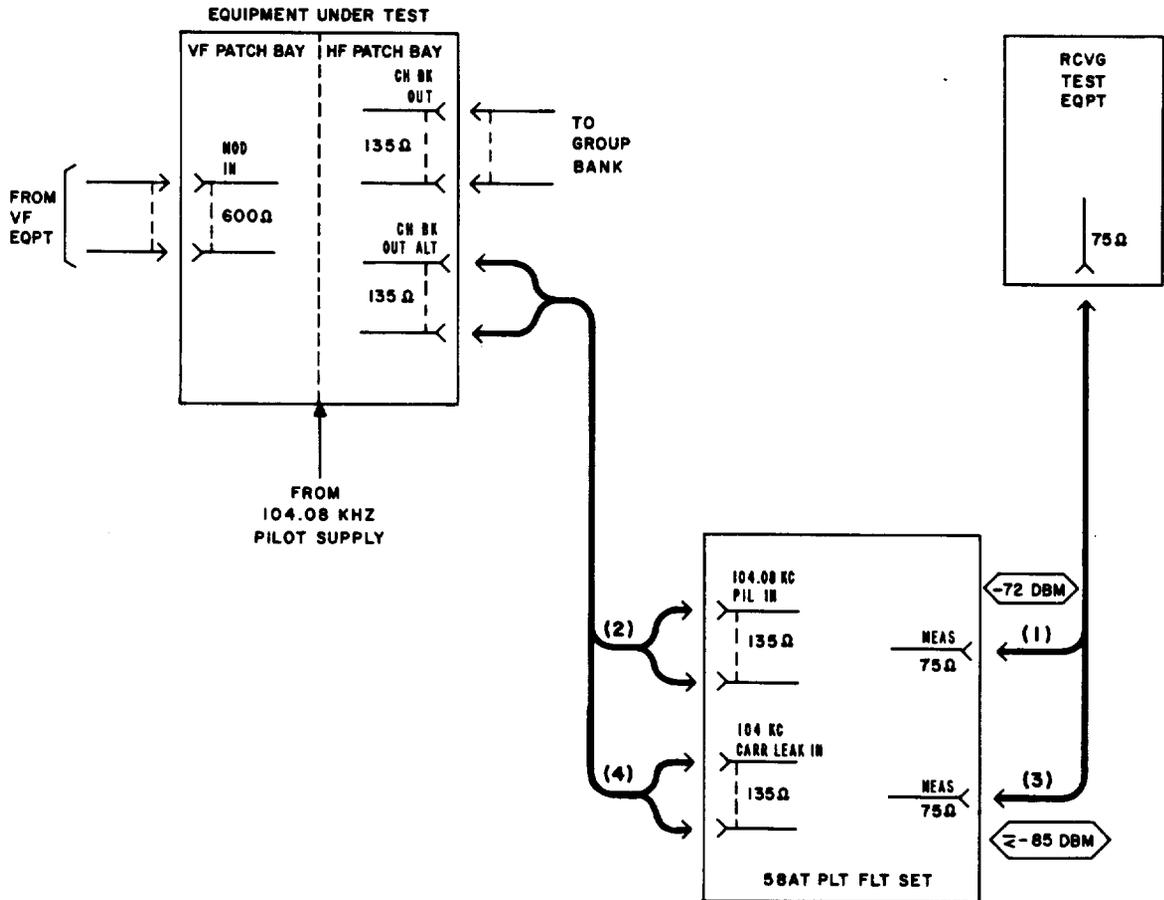

Fig. 2—Patching Diagram—104-kHz Carrier Leak Test
Note 1: If desired, the steps in the procedure in this section can be bypassed by referring to Fig. 2.
2	Connect the RTE to the 104.08-kHz pilot MEAS jack on the 58AT pilot filter set [patch (1), Fig. 2].
3	Connect the 104.08 KC PIL IN jack (58AT pilot filter set) to the CH BK OUT ALT jack [patch (2), Fig. 2].
5	<p>Remove patches (2) and (1), Fig. 2.</p>
6	<p>Connect the RTE to the 104.00-kHz carrier leak MEAS jack on the 58AT pilot filter set [patch (3), Fig. 2].</p>
7	<p>Connect the 104 KC CARR LEAK IN jack (58AT pilot filter set) to the CH BK OUT ALT jack [patch (4), Fig. 2].</p>
11	Remove patches (4) and (3), Fig. 2. Caution: Remove patch (4) from the CH BK OUT ALT jack first to prevent possible hits on data and carrier telegraph circuits.